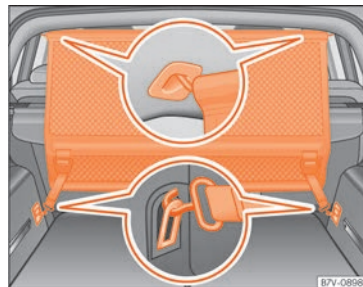

Fig. 171 In the boot: install the net partition behind the second row of seats.
- Hook in the net partition on the left-hand side roof support »» Fig. 171. To do this, guide the rod from up to down.
- Secure the net partition hooks into the straps in the front of the boot »» Fig. 171 then tighten the belts.
- Hook in the net partition on the front left-hand side roof support »» Fig. 171. To do this, guide the rod from up to down.
- Release the net partition hooks from the rings »» Fig. 171.
- Unhook the net partition on the right-hand side roof support »» Fig. 171 by pressing on the rod.